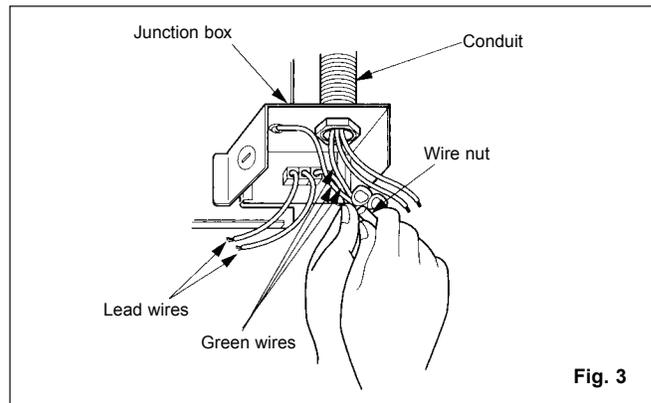

Fig. 3
4. Remove junction box cover and secure conduit to junction box knockout hole. (7/8 inch) (Fig. 3)
Using wire nuts, connect house power wires to ventilating fan wires (Fig. 3): black to black; white to white; green to greens.